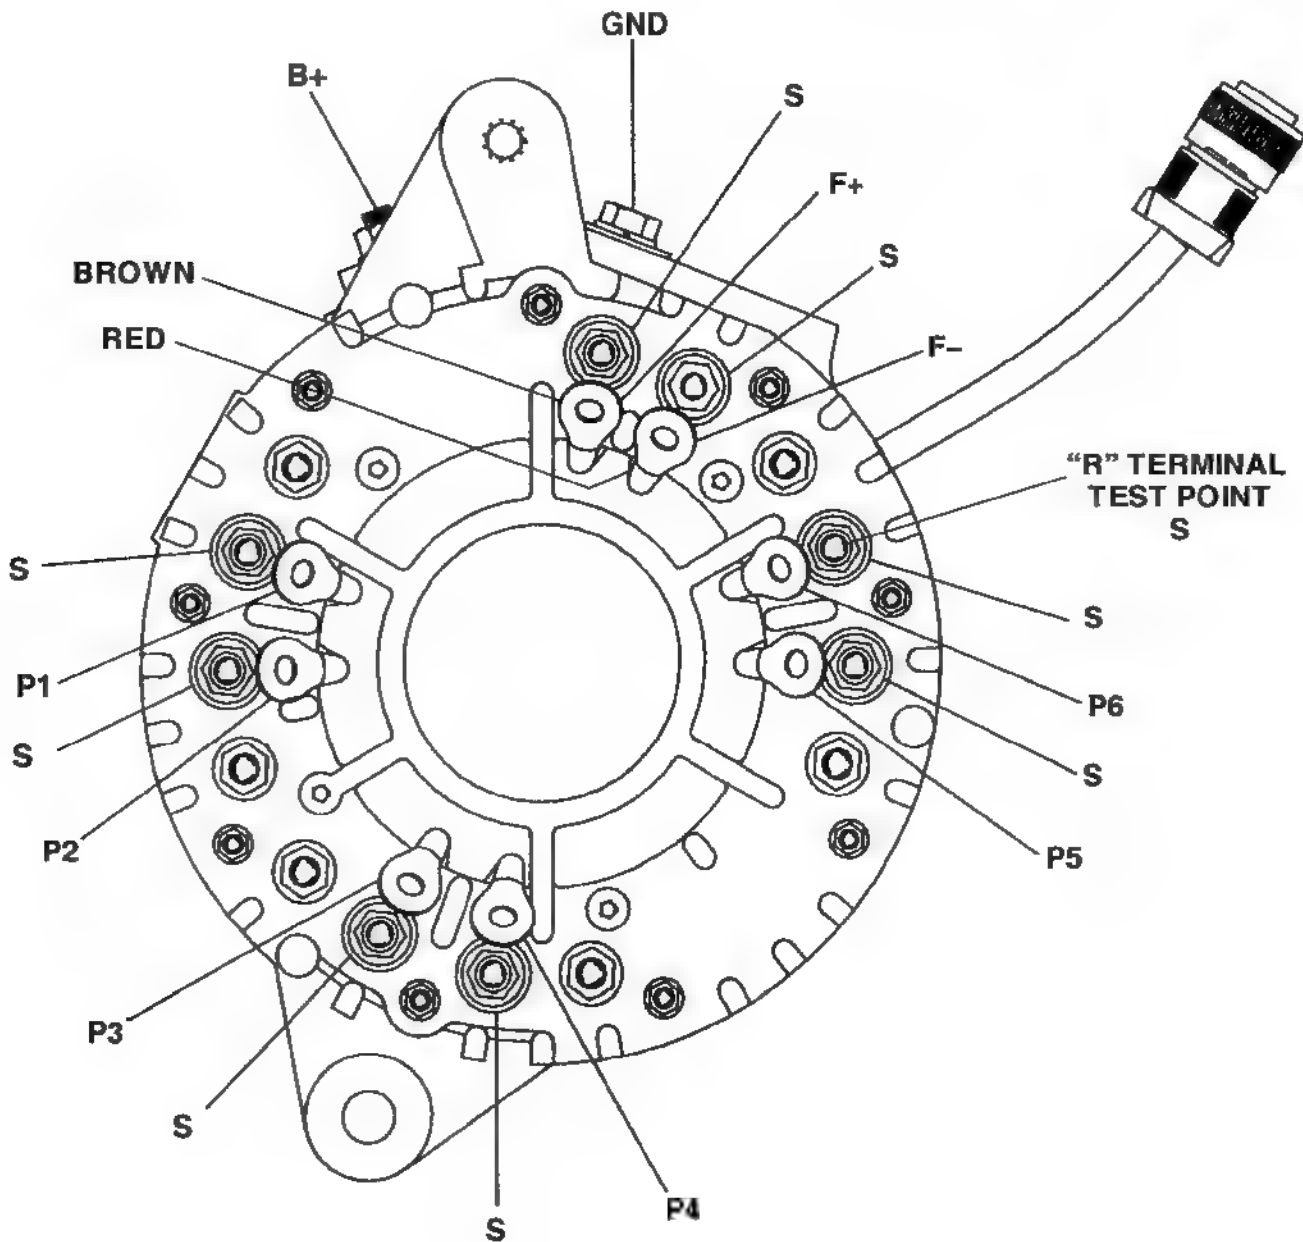

Figure 12-9.
Disconnect all phase leads attached to the heatsink (“P1” through “P6”) in Figure 12-9. Disconnect alternator connector from voltage regulator.
1. Remove both field coil (F+, F-) leads from terminal studs on the front housing. (See Figure 12-9).
2. Probe the alternator connector pins to insure all internal wiring is intact. (Refer to figure 12-9, page 14).
Remove all phase leads (P1-P6) from front housing (refer to figure 12-9 page 14). Note: Do not allow sleeving on leads to slide down leads; phase terminals without sleeves can short to alternator body.
1. Check positive diodes (Refer to Figure 12-9, page 14). Set ohmmeter to x 100 scale and make sure ohmmeter is zeroed. Connect one ohmmeter lead to the B+ output connector. Connect the other ohmmeter lead to each of the six heatsink phase terminals "S". All six readings should be nearly alike; either less than 600 ohms, or very high. If all six readings are not alike, the diode rectifier assembly is defective and the heatsink assembly or front housing assembly must be replaced.
2. Check negative diodes (Refer to Figure 12-9). Set ohmmeter to x100 scale and make sure ohmmeter is zeroed. Connect ohmmeter lead to the ground terminal located on the outside of the front housing, connect the other ohmmeter lead to each of the six heatsink phase terminals "S". All six readings should be nearly alike; either less than 600 ohms, or very high. If all six readings are not alike, the diode rectifier assembly is defective and the heatsink assembly is defective, and the heatsink assembly or front housing assembly must be replaced.
The alternator has two separate stator assemblies that will be checked individually. Make sure that all phase leads are disconnected from the heatsink (Refer to Figure 12-9).
1. Check front stator. Set ohmmeter to x1 scale and make sure ohmmeter is zeroed. Check for open stator windings by connecting ohmmeter between each successive pair of stator phase leads (Refer to Figure 12-9), ("P1"- "P2", "P2"- "P3", and "P1"- "P3"). Note it may be necessary to probe under the sleeves of the phase leads in order to make electrical contact. Ohmmeter should read less than 1 ohm between each pair of stator phase windings. If ohmmeter reads very high (infinity) the stator is open and must be replaced (replace or repair stator and shell assembly).